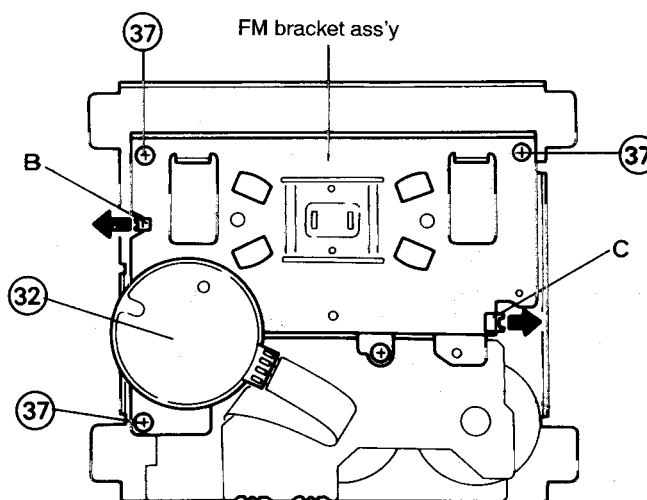

Fig. 7-28
5. From the FM bracket ass'y, remove the two screws (34) retaining the capstan motor (32) (Refer to Fig. 7-28).